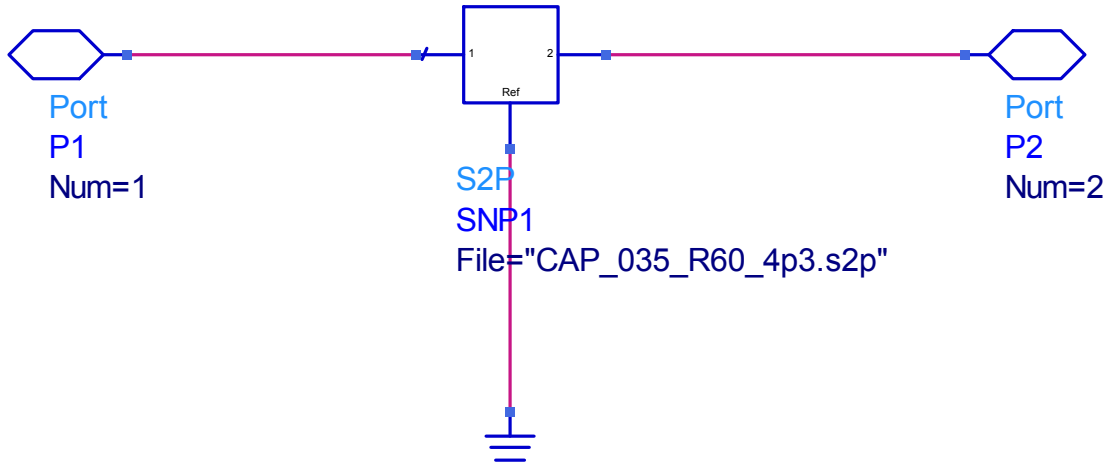

Figure 9: Lower level capacitor model.
17. Click Apply then OK to exit the window. The schematic should be the same as the schematic shown in Figure 9.